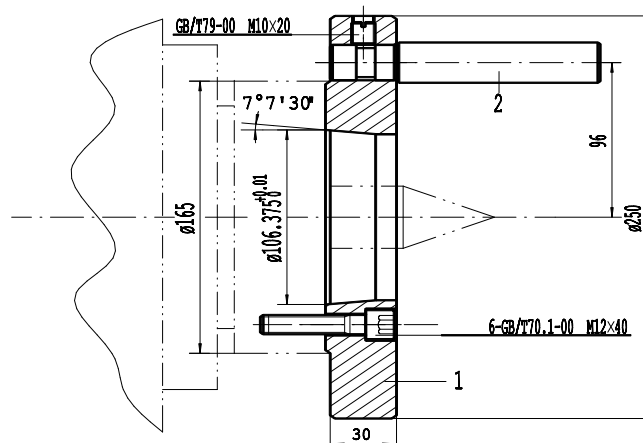

Fig.18 Mounting schematic of chuck, faceplate and drive plate
The type of spindle nose of the machine is A16 (refer to Fig. 18). The chuck disposed for the machine is manual 3-jaw self-centering chuck with the model of K11250/A16, and the chuck is directly connected with the spindle by screws, which is easy and convenient. Mounting method of faceplate and drive plate is the same as that for chuck.
**! Attention: While installing the chuck (or faceplate or drive plate), you must tighten the screws firmly to prevent looseness of chuck (or faceplate or drive plate). While using the drive plate, it is necessary to tighten the drive rod 2 (refer to Fig. 18) by screws.**